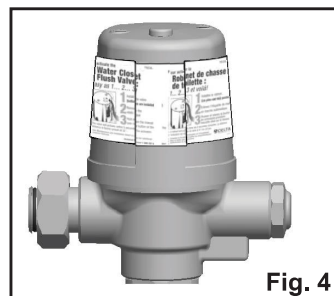

Fig. 4
- Follow instructions on yellow static label (Figure 4).